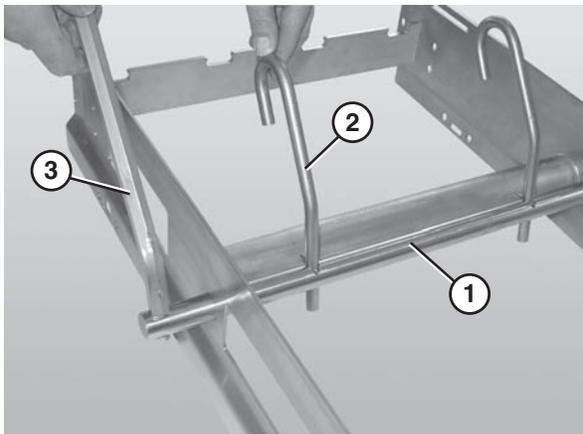

Figure 29
1. Slide the belt lift pivot bar (Figure 29, item 1) through the designated holes in the frame. The pins on the pivot bar should be located to the inside of the frame side rails.
2. Attach the lifter bars (Figure 29, item 2) to the belt lift pivot bar (Figure 29, item 1). Make sure the hooked ends of the lifter bars are facing down when resting against the frame.
3. Attach the lifter handle (Figure 29, item 3) to the belt lift pivot rod.